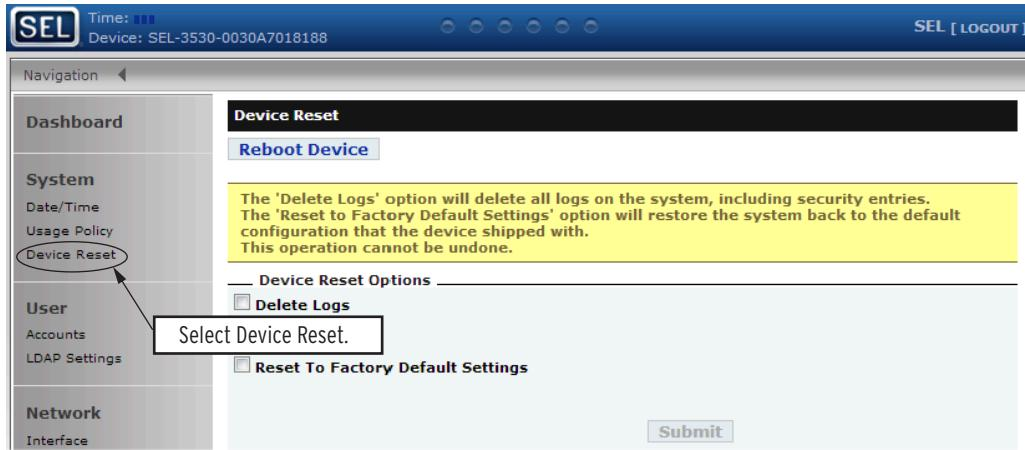

Figure 3.1 Factory Reset Via Web Interface
- Step 3. Check **Reset To Factory Default Settings** (see *Figure 3.1*).